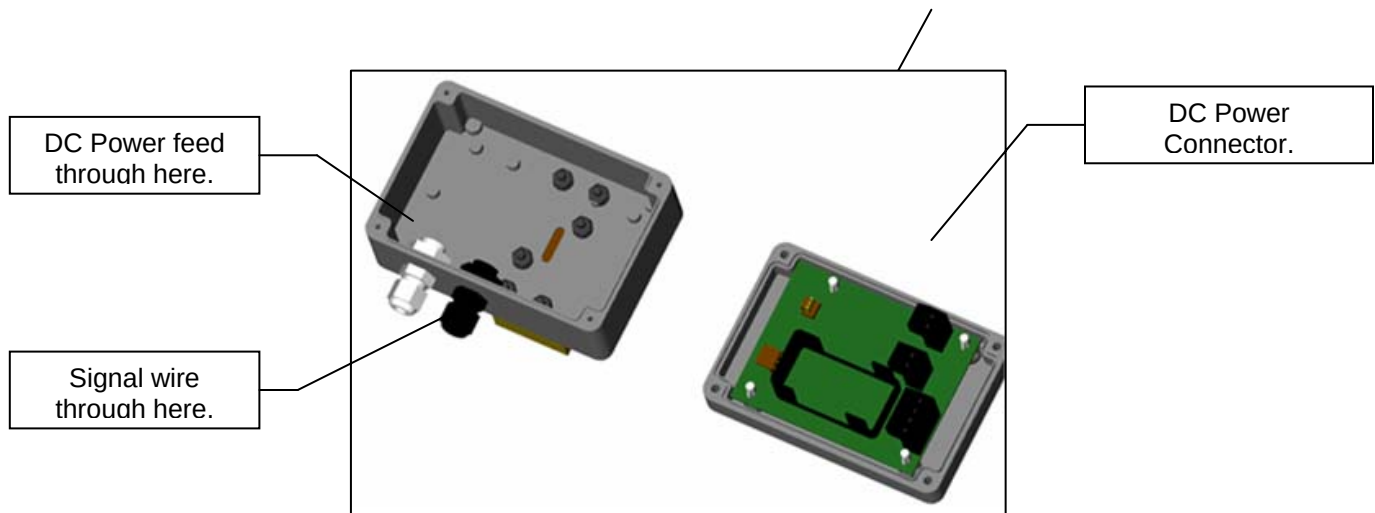

Figure 8
1.13.1 Inside of the cover you will find the CYL-TEL Gauge circuit board. Locate the power connector. See Figure 8 and